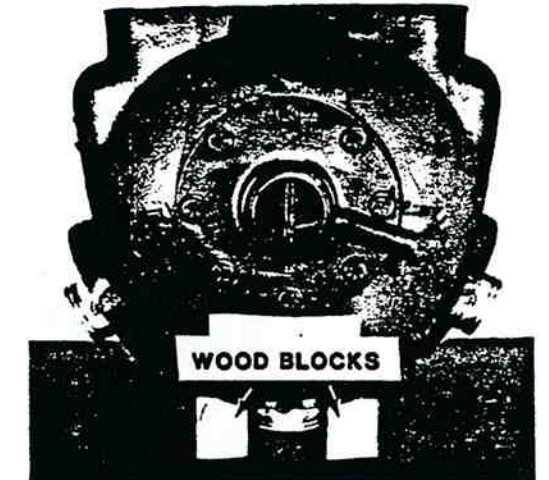

Figure 16-31: Piston Ring Removal
13. Push the piston rods down so that the piston rings extend below the cylinders (figure 16-31). Remove and discard piston rings.